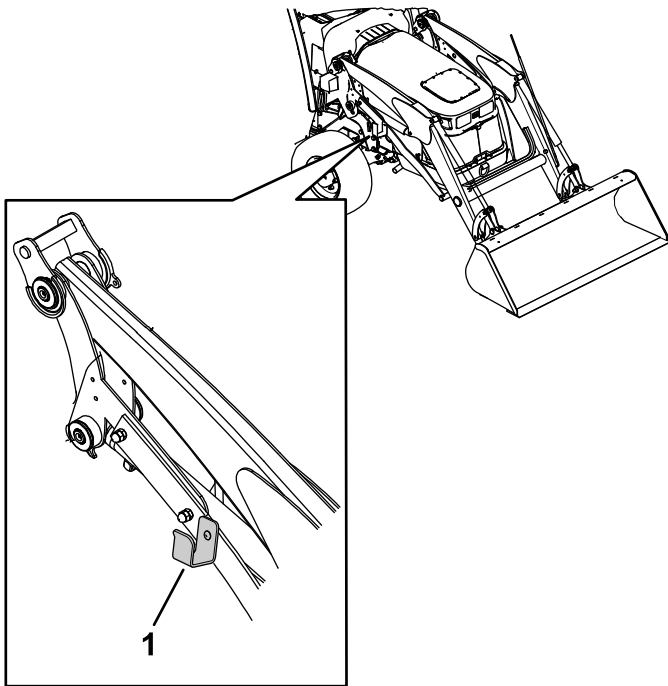

**Figure 50**
- Perform the following steps to disconnect the hydraulic couplers (Figure 50):